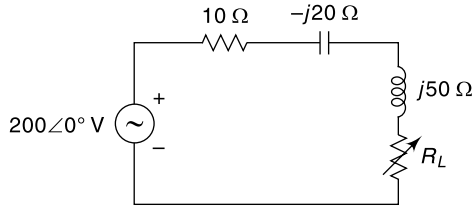

Fig. 6.22 Circuit of Ex. 6.21
6.21 In the circuit shown in Fig. 6.22 the circuit consists of fixed inductance and variable load resistance (R_L). Find (R_L) for maximum power transfer and the value of the maximum power.